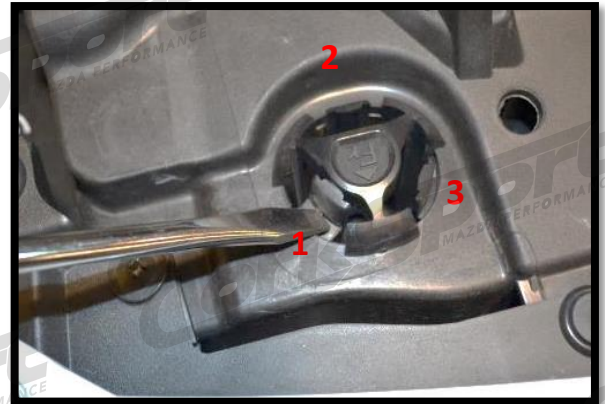

Figure 1e
f) Pry out the two upper radiator mounts by pushing all three (3) tabs in and pulling upward (Figure 1e).
- f) Pry out the two upper radiator mounts by pushing all three (3) tabs in and pulling upward (Figure 1e).